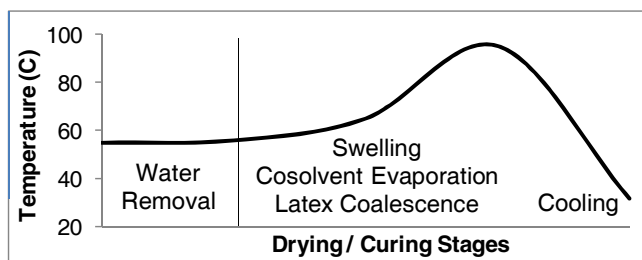
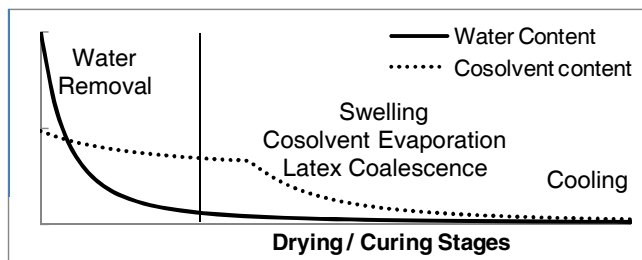

Figure 3. Temperature evolution throughout the drying and curing process.
Figure 4. Relative rates of water and cosolvent evaporation in each drying stage (water and cosolvent loss are not on the same scale).
Figure 3 shows the temperature profile of the media in the drying (2) and curing zones (3), and Figure 4 shows the relative rate of water and cosolvent evaporation throughout the process.